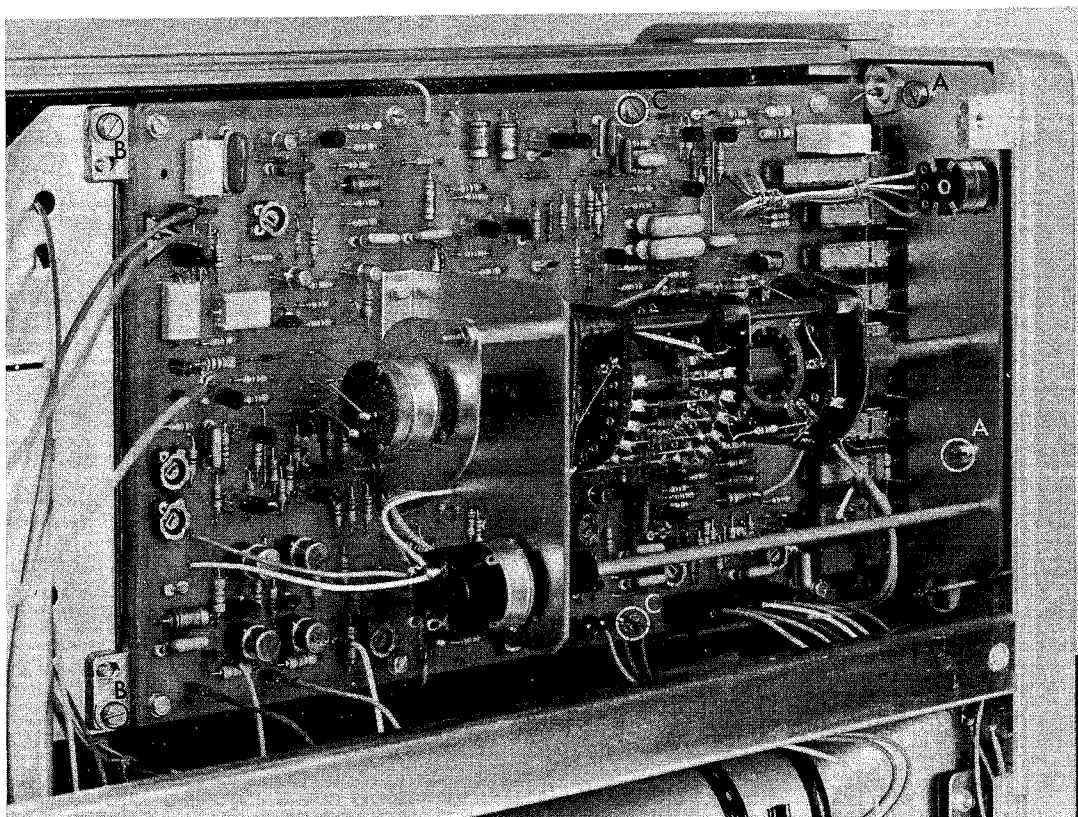

Fig. 3.16. Dismantling
- Remove two screws A (Fig. 3.16.)
- Remove two screws B (Fig. 3.16.)
- Remove two screws and nuts C (Fig. 3.16.)
- Remove two screws C (Fig. 3.16.)